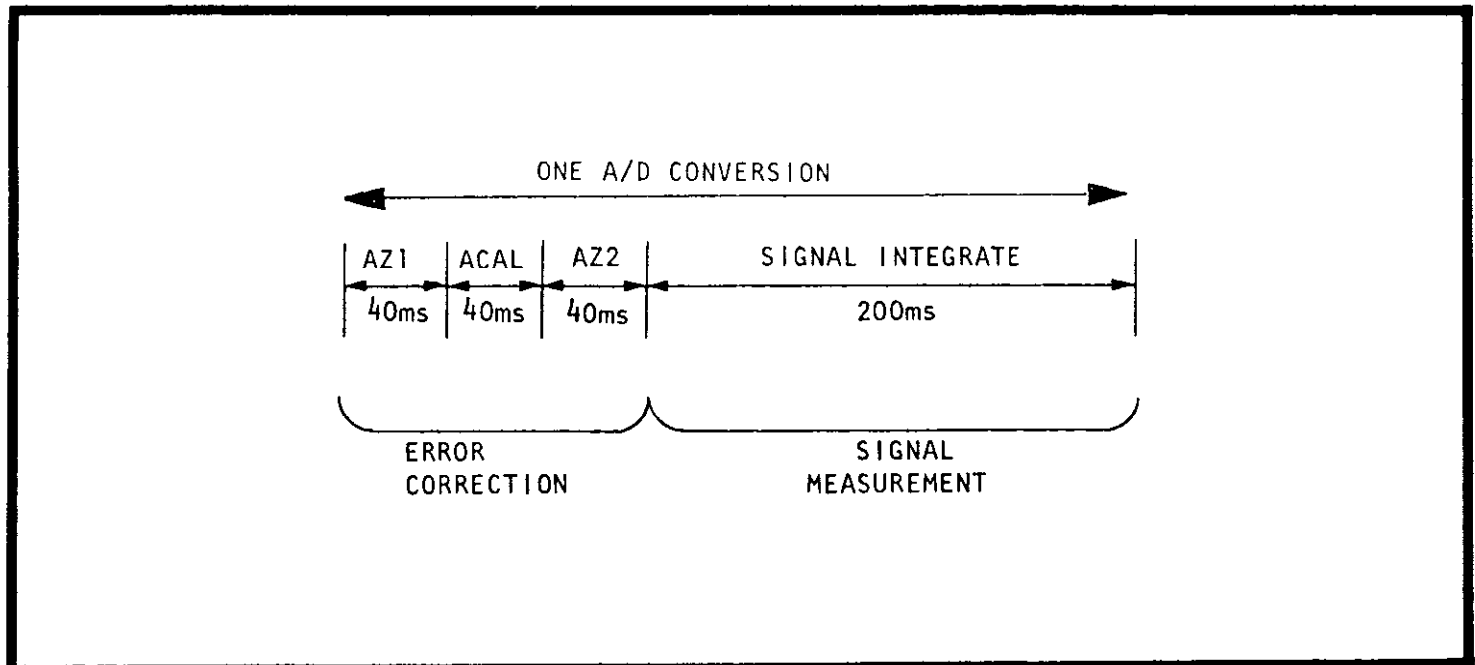

FIGURE 32. A/D Converter System Timing.
1. In the preceding two sections the structure and function of each major analog circuit block has been explained. This section contains a description of the manner in which these elements are combined in a complete A/D conversion. The description is based on Figure 32, an overall A/D converter timing diagram showing one complete conversion.